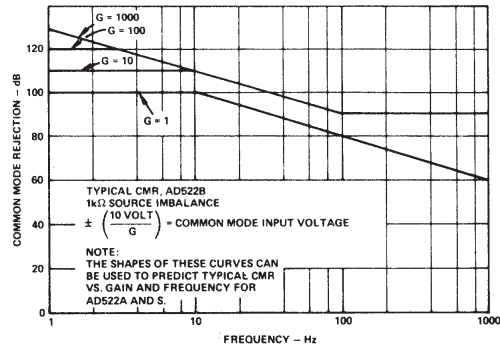

Figure 5. Common Mode Rejection vs. Frequency and Gain
Common Mode Rejection Ratio, Min @ $\pm 10V$ , $1k\Omega$ Source Imbalance (see Fig. 5)
**Common Mode Rejection:** CMR is rated at  $\pm 10V$  and  $1k\Omega$  source imbalance. At lower gains, CMR depends mainly on thin-film resistor stability but due to gain-bandwidth considerations, is relatively constant with frequency to beyond 60Hz. The dc CMR improves with increasing gain and is increasingly subject to phase shifts in limited bandwidth high-gain amplifiers. Figure 5 illustrates CMR vs. Gain and Frequency.